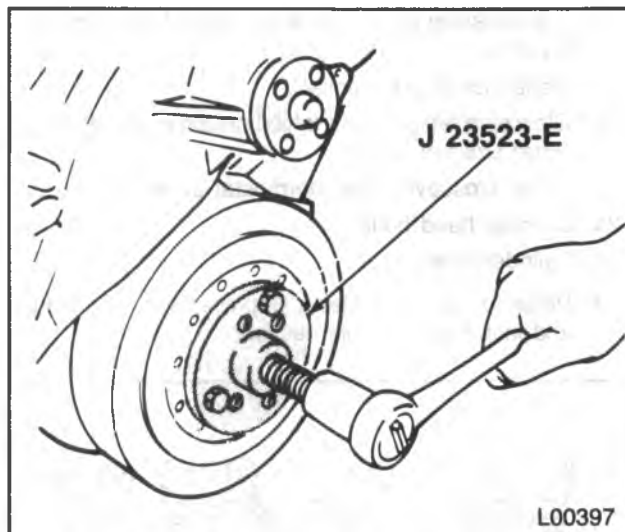

Figure 13 — Removing the Torsional Damper
Remove or Disconnect (Figure 13)
6. Torsional damper. Use J 23523 (figure 13).